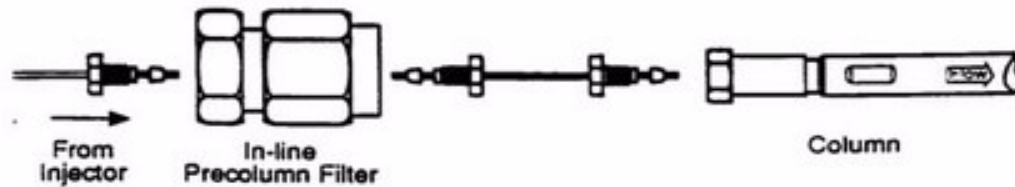

Figure 2 - Installing the Precolumn Filter
3. Connect the injector tubing to the inlet port of the filter assembly (Figures 2).